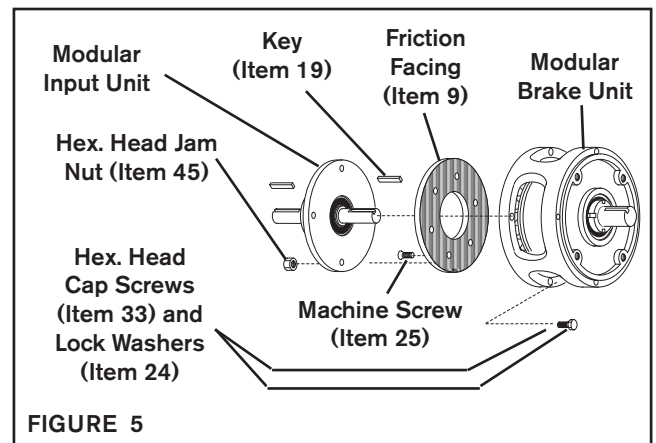

FIGURE 5
- Remove the six Machine Screws (Item 25) that secure the Friction Facing (Item 9) to the MBU Disc Journal (Item 8) and save the Machine Screws and Friction Facing as spare parts (See Figure 5).
- Place the Key (Item 19) into the shaft of the Modular Input Unit (MIU); then, slide the MIU shaft into the Modular Brake Unit (MBU) (See Figure 5).
- Using the four Hex. Head Jam Nuts (Item 45), Hex. Head Cap Screws (Item 33), and Lock Washers (Item 24), secure the MIU to the MBU (See Figure 5).
- Alternately and evenly tighten the four Hex. Head Jam Nuts (Item 45) to 20 ft-lb [27 Nm] torque (See Figure 5).